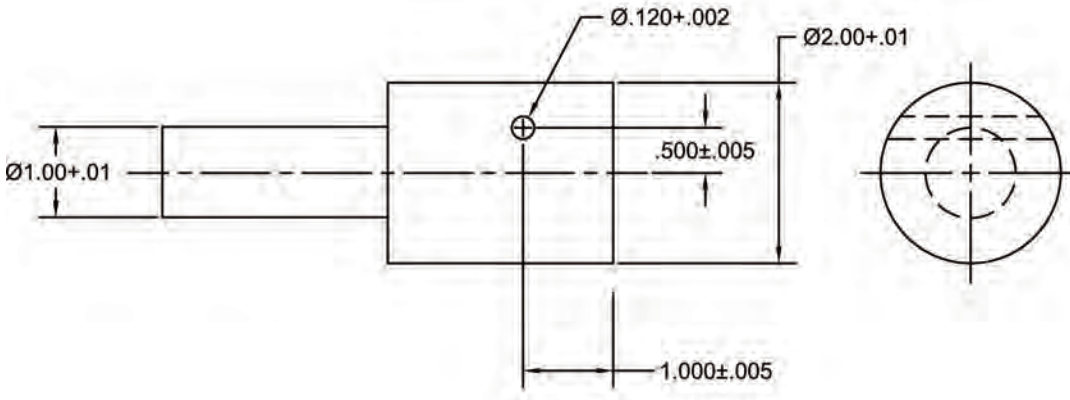
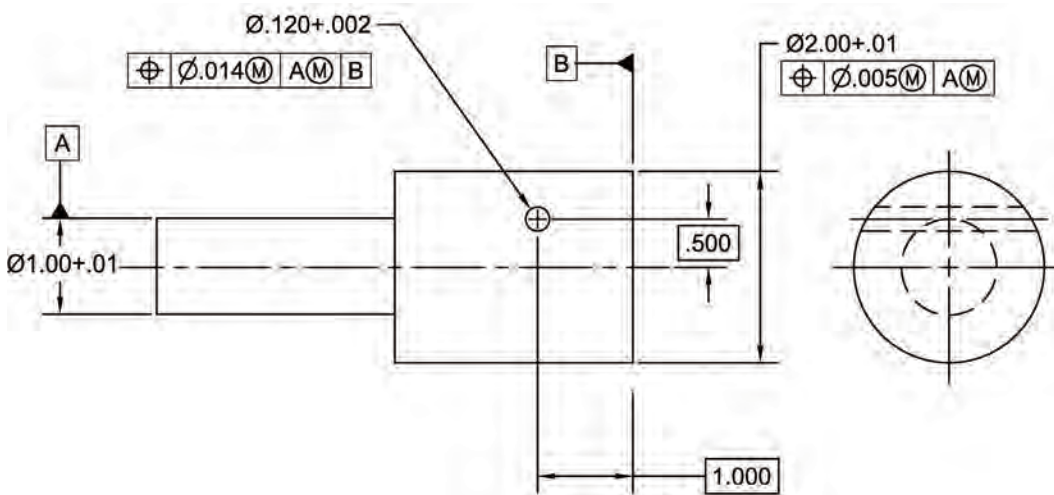
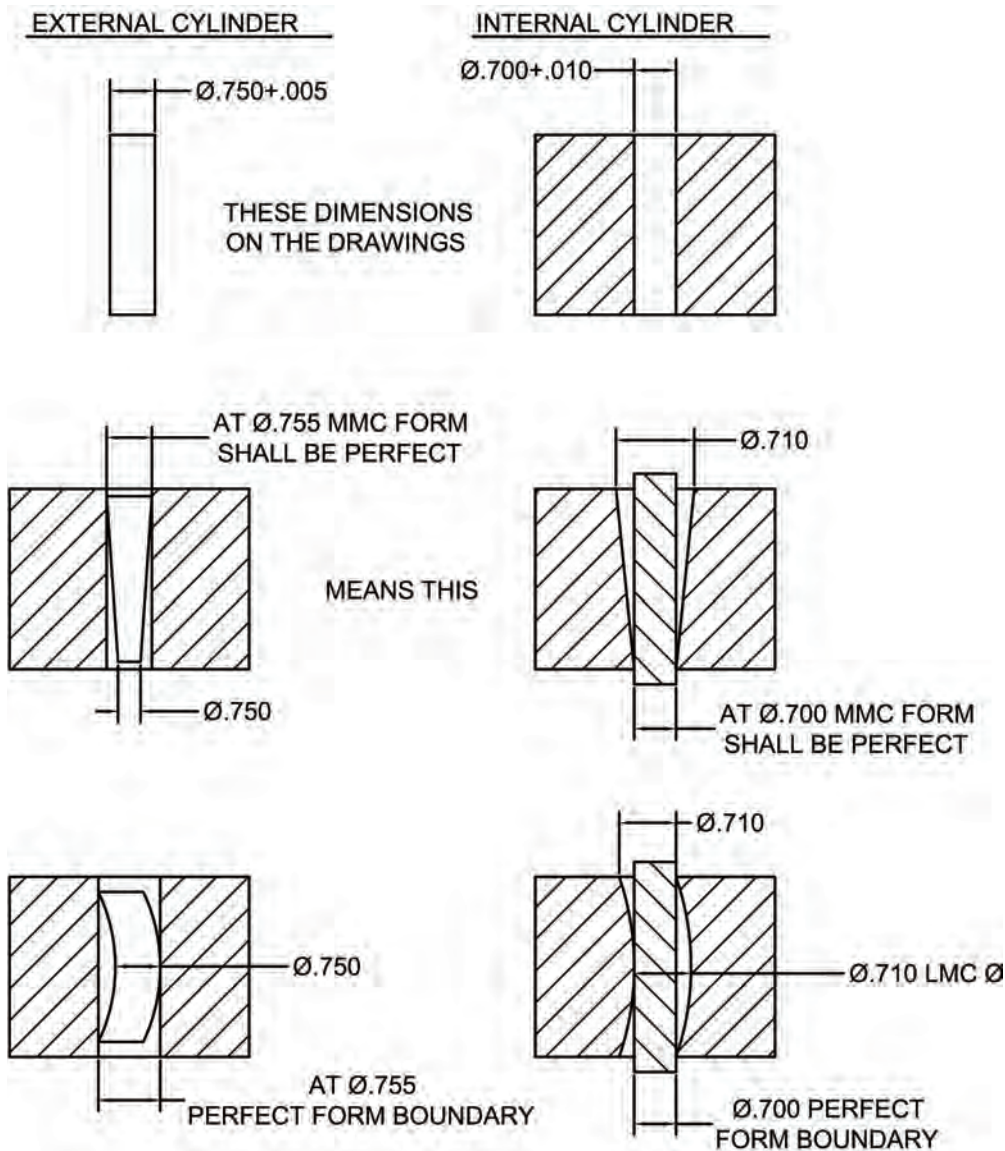

Figure 5-1 “OLD” Drawing without GD&T.
Figure 5-2 “NEW” Drawing with GD&T.
Figure 5-8 Rule #1.
- b. It eliminates ambiguities as to what Datum features are to be contacted to establish the Datum planes and/or Datum axis that are to be used for locating other features. All inspection will result in the same result – the dimension is within or out of tolerance. Fig. 5-1 illustrates a simple example of ambiguities associated with the "old" type drawing. Fig. 5-2 illustrates the same example with GD&T.
Questions asked in Fig. 5-1 answered:
- 2) The Ø1.00 is the feature to be used for measuring the .500 dimension for locating the n.120 hole. The tolerance for locating the Ø.120 hole is a Ø of .014 (the diagonal of the rectangular tolerance zone shown in Fig. 5-1) when the hole is a MMC (Ø.120).
When only a size tolerance is specified for an individual feature of size the form of this feature shall not extend beyond a boundary (envelope) of perfect form at maximum material condition (MMC). In other words, when the size is at MMC the feature has to be perfectly straight. If the actual size is less than the MMC the variation in form allowed is equal to the difference between the MMC and the actual size. The relationship between individual features is not controlled by size limits. Features shown perpendicular, coaxial or symmetrical to each other must be controlled for location or orientation otherwise the drawing is incomplete. In other words Fig. 5-1 is an incomplete drawing. Fig. 5-8 shows the meaning of Rule #1 for an external cylinder (pin or shaft) and an internal cylinder (hole). Note that a hard gage can be used to inspect this principle or requirement.